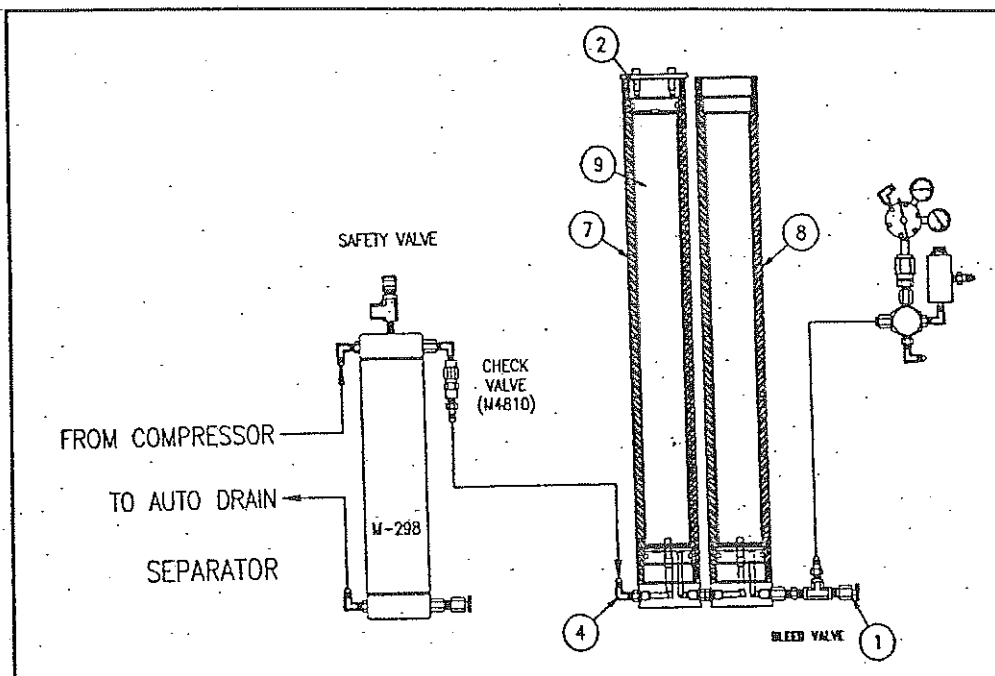

FIGURE 5-14 TOP PLUG REPLACEMENT
14. Install the top plug (2) on the first chamber (7) (see Figure 5-14). Tighten plug until dust cover hits, then back out 1/8 turn. If binding is encountered, check cartridge position and clean the threads.
15. Make sure the bleed valve (1) is open (see Figure 5-14).